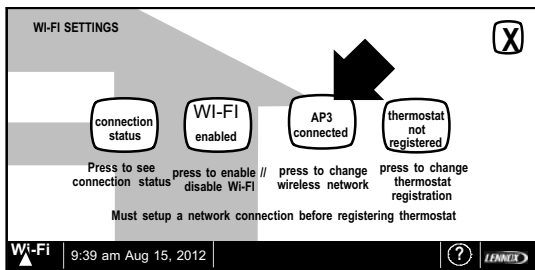

Figure 8. Network Connected
3. If connection is successful the screen will return to the available networks screens. Press **AP3** as exemplated in figure 8 to return to the previous screen. If the connection was successful it will be listed connected as exemplated below.
3. If connection is successful the screen will return to the available networks screens. The network successfully connected will be listed and shown as connected as exemplated in figure 8.